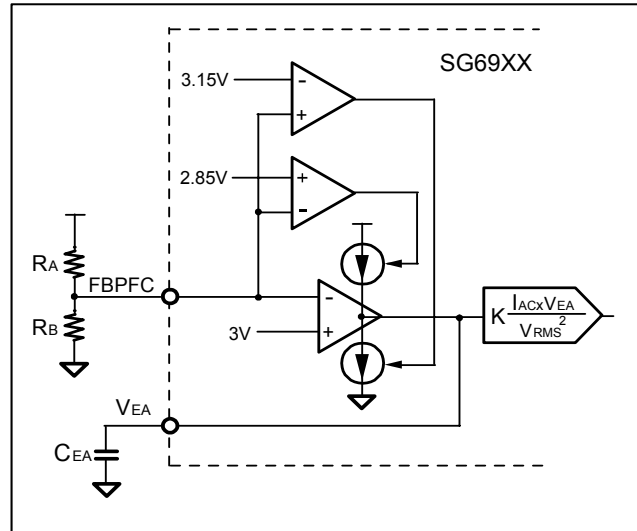

Figure 5 Multi-vector Error Amp.
To achieve good power factor, the voltage for  $V_{RMS}$  and  $V_{EA}$  should be kept as DC as possible according to equation (4). In other words, good RC filtering for  $V_{RMS}$  and narrow bandwidth (lower than the line frequency) for voltage loop are suggested for better input current shaping. The trans-conductance error amplifier has output impedance  $R_O (>90k\Omega)$  and a capacitor  $C_{EA}$  (1uF ~ 10uF) connected to ground (Figure. 5). This establishes a dominant pole  $f_l$  for the voltage loop:
Figure 5 shows the block diagram of the multi-vector error amplifier. When the variation of the feedback voltage exceeds  $\pm 5\%$  of the reference voltage, the trans-conductance error amplifier will adjust its output impedance to increase the loop response. If  $R_A$  is opened,